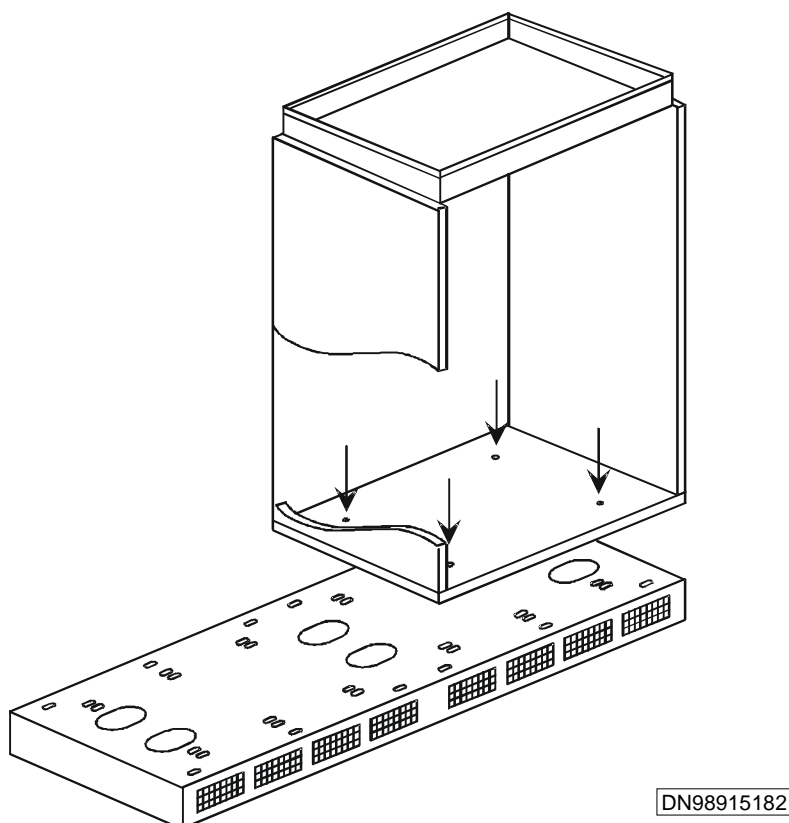

Figure 18 Fixing points between the cabinet and double plinth
1. Lift the cabinet onto the right side of the double plinth as shown in Figure 18.